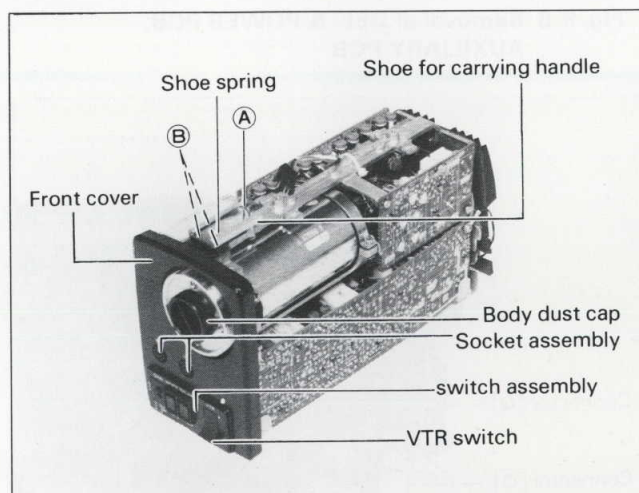

Fig. 9-5 Removal of the front cover
- (1) The shoe spring can be removed by removing screw (A), shown in Fig. 9-5.